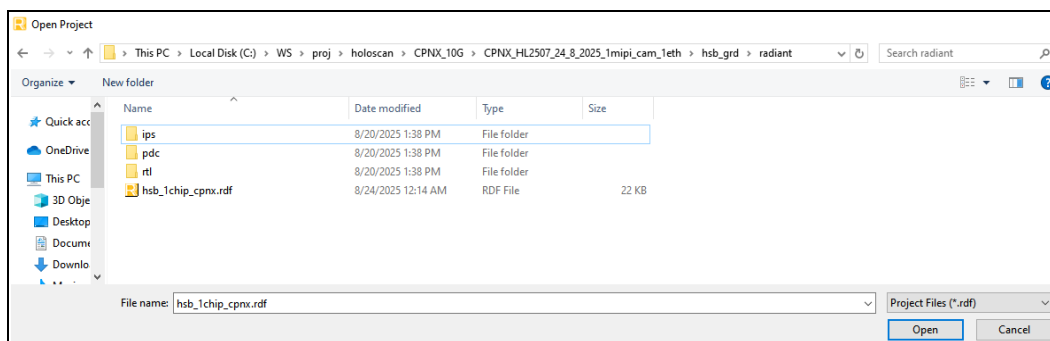

Figure 5.4. Open Project File
2. Click **File > Open Project**. From the project database, open the Lattice Radiant software project file (*hsb_1chip_cpnx.rdf*), as shown in Figure 5.4.